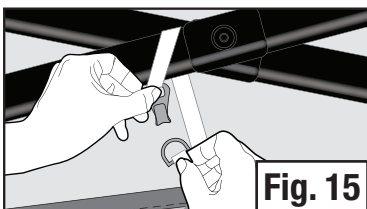

Fig. 15
- Locate all hook & loop fasteners on edges of SunWall, then wrap around frame & frame posts to secure. (Fig. 15 & 16)